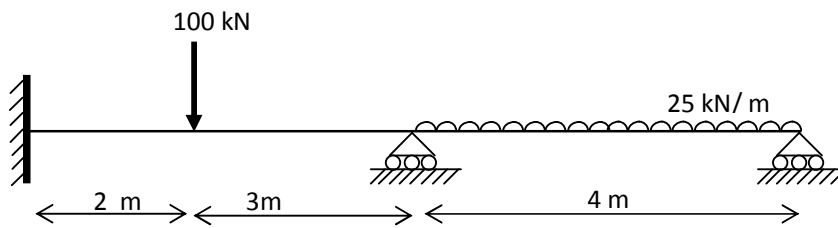

Fig.2
5. Analyse the beam shown in the Fig.2, by moment distribution method. Draw the shear force and bending moment diagrams.